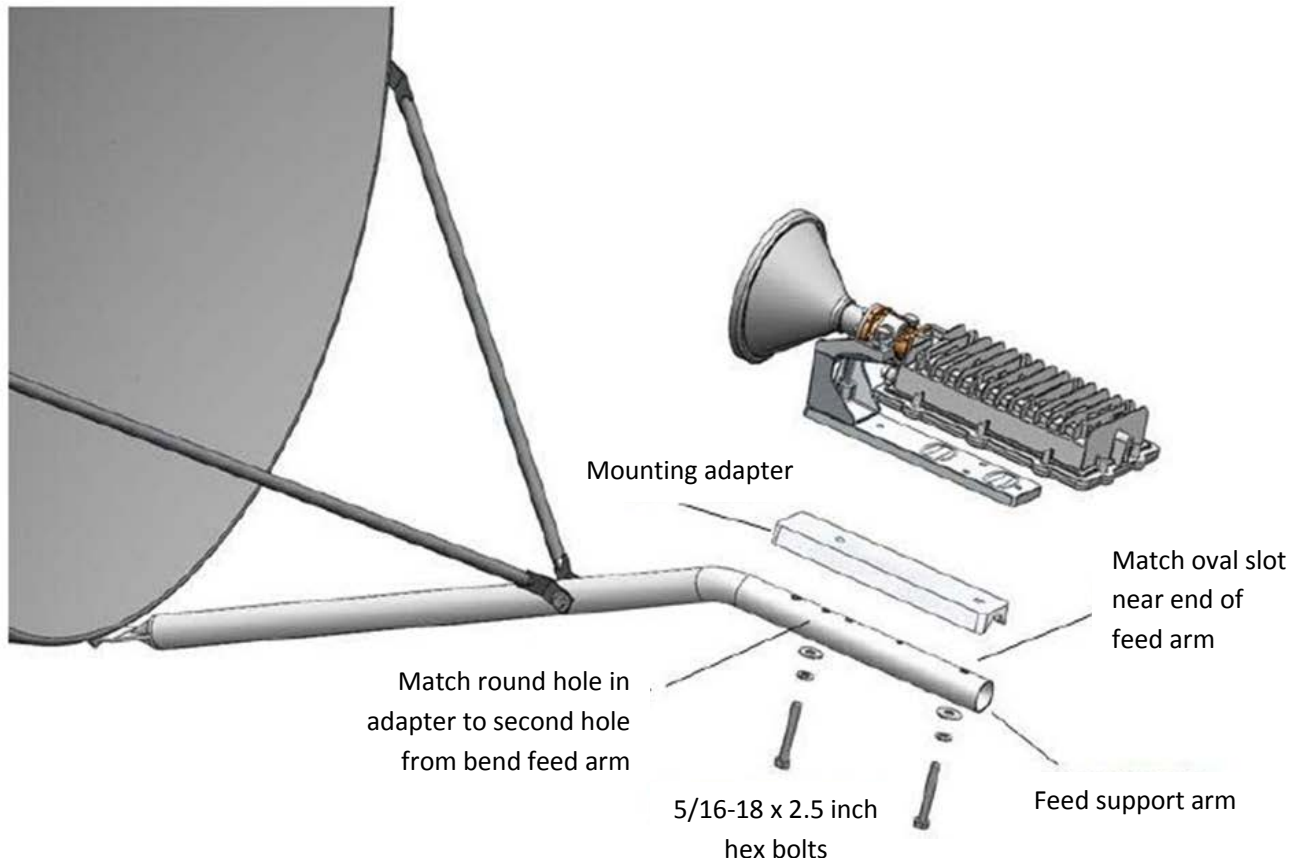

Figure 8: Mounting the cradle-type Universal Radio on the feed support arm
1. Place the mounting adapter and radio assembly onto the feed support arm, as shown in Figure 8.
There are six holes on the top surface of the feed support arm. Use the oval slot at the end of the arm and the second hole from the bend in the arm, as shown in Figure 8 on page 18.